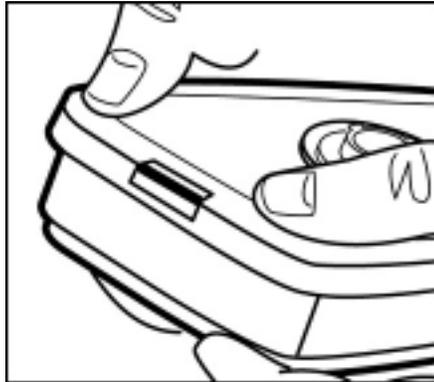

Fig. 5
2. Engage back snap by squeezing back side of cartridge and adapter together using the same hand positions. An audible click should be heard as each snap is engaged. Note: The 3M 502 adapter should not be removed or reused once engaged as it is not designed for reuse and leakage may occur. (Fig. 5)